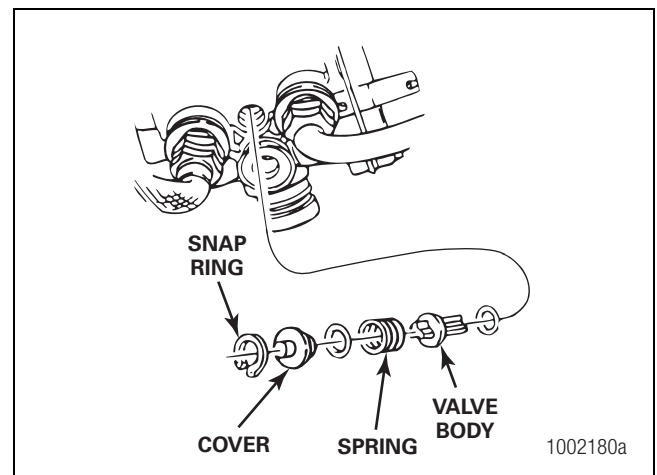

Figure 2.20
6. Install the new valve body with its long end in the bore. Figure 2.20.